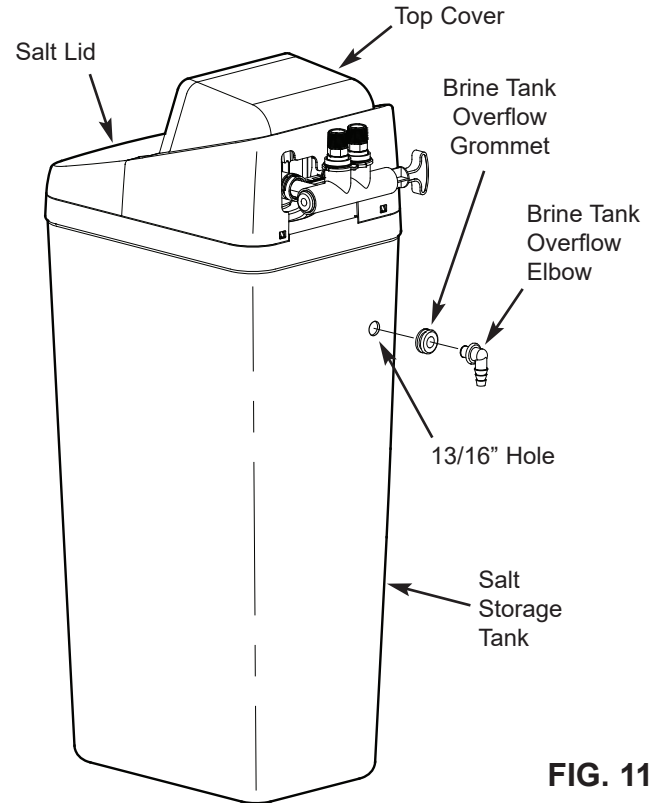

FIG. 11
1. Kenmore® models are factory assembled. During installation, unsnap and remove the top cover, together with the salt lid (See Figure 11), to expose the softener valve assembly. Set them aside to prevent damage.
2. Install the brine tank overflow grommet and elbow into the 13/16" diameter hole in the back of the salt storage tank wall (See Figure 11).